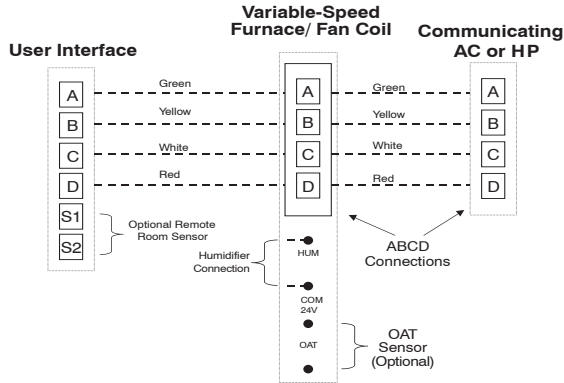

Fig. 8 - Universal Four-Wire Connection Diagram
- Match and connect thermostat wires to proper terminals on User Interface backplate. See wiring diagram Fig. 8, 9, and 10.
See wiring diagram, Fig. 8, which includes an indoor communicating furnace or FE fan coil, with a communicating outdoor unit. No additional OAT (outdoor air temperature) sensor is required because the Evolution Control will use the temperature sensor inside the outdoor unit.